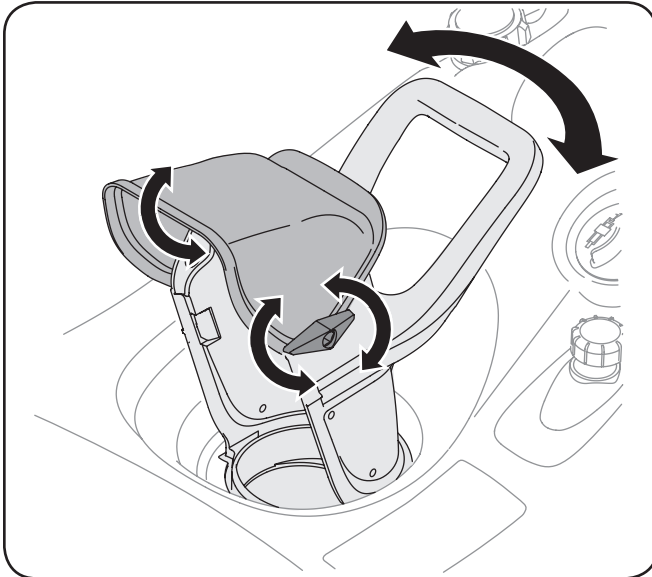

Figure 3-4
2. Position the chute assembly opening by using the Chute Handle to throw the snow in the desired direction. See Figure 3-4.